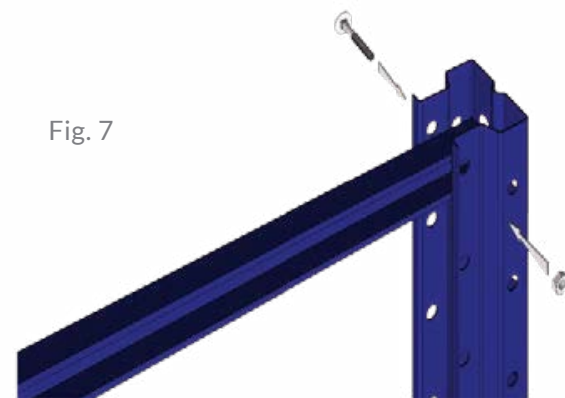

Fig. 7
Step 7 | Finish assembly with another horizontal brace with a spacer used on final bolt. (Fig. 7)